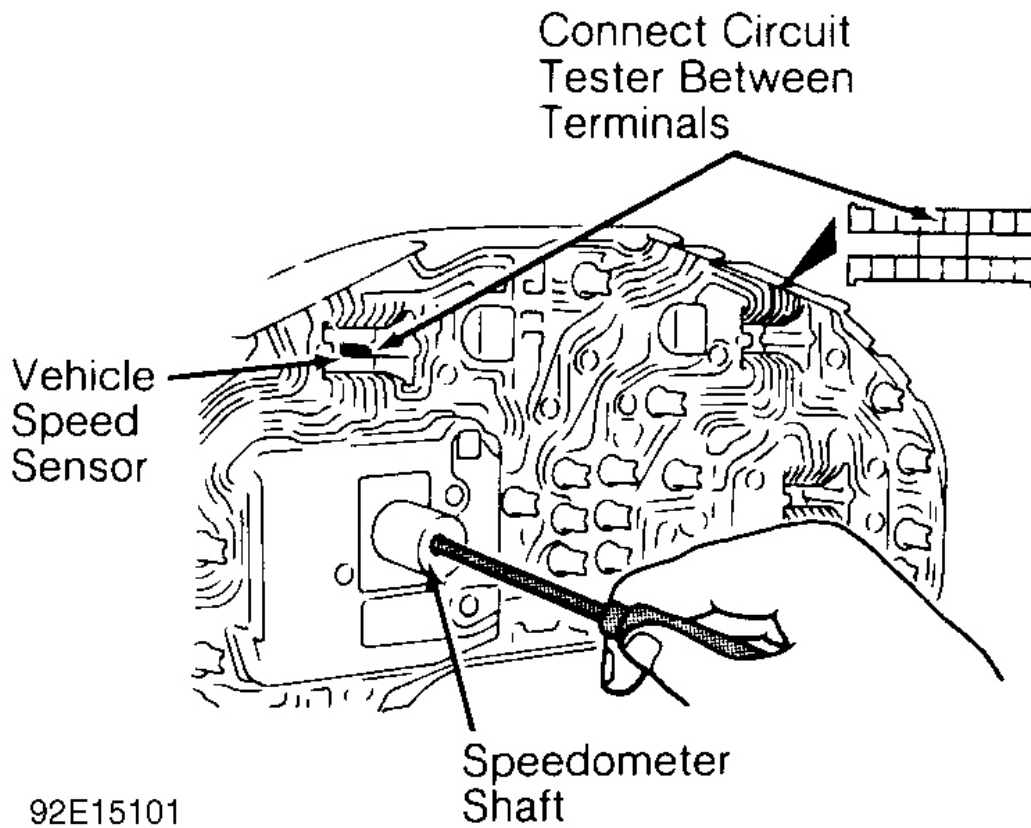

Fig. 23: VSS (Stealth & 3000 GT With Mechanical Speedometer)
1. Connect circuit tester between terminals on rear of instrument cluster. See **Fig. 23**.